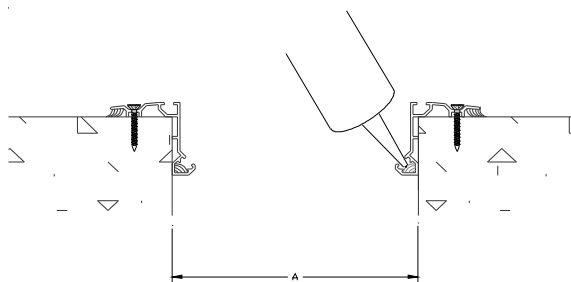

Figure 6
**STEP 11.** Apply a continuous bead of sealant into the base member's back seal channels, see Figure 6.